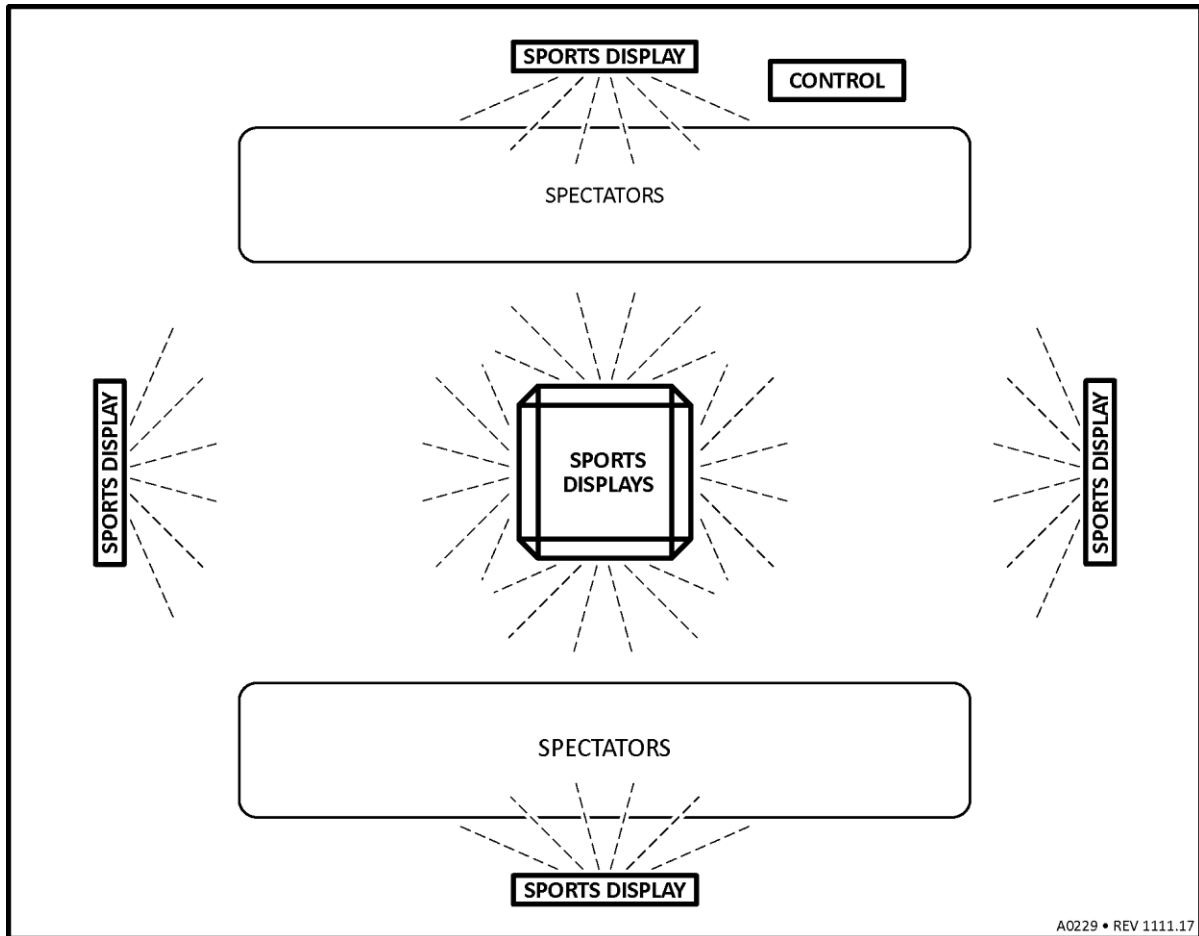

FIGURE 1 – LED DISPLAY AND CONTROL PLACEMENT
- The control must be located such that the scorekeeper or control operator can monitor the event and see what is being displayed. See Figure 1 below.